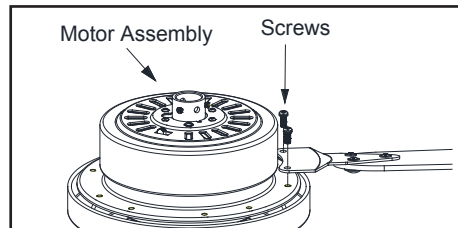

Figure 14
3. Attach the blade assemblies to the motor by aligning the two screw holes in the blade bracket with the screw holes in the center flywheel and secure with screws. (Figure 14)
4. Repeat this step for the remaining blade assemblies. (Figure 14)